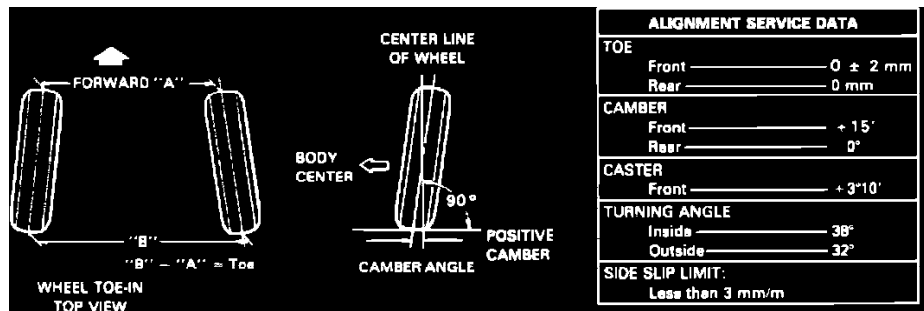

Fig. 1 Wheel alignment specifications
1. Position vehicle on suitable alignment fixture following manufacturer's instructions and check caster and camber angles. Refer to **Fig. 1** for specifications. Bumper should be bounced three times before inspection, to prevent incorrect reading.